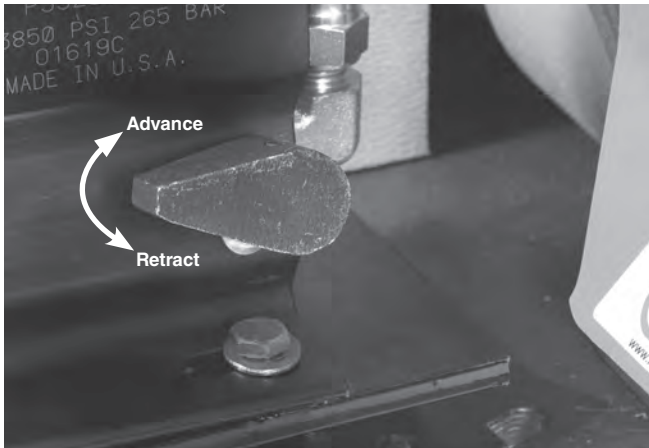

Figure 9 – Pump Release Lever Position
- To retract the groove roll, move the pump lever to the retract position. *See Figure 9*.